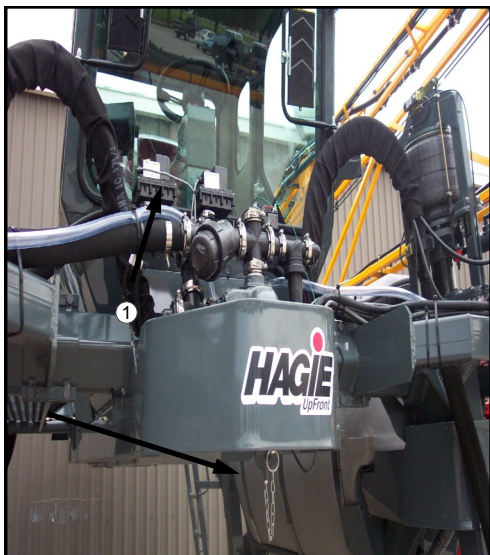

**FIG 5.35**
To fill the solution tanks, make sure the tank shutoff valve (fig. 5.35) under the tank and the electric valve (fig. 5.36, item1), you want to fill is open (you may fill both at the same time). Open the valve on the quick fill attachment (fig. 5.36, item2).